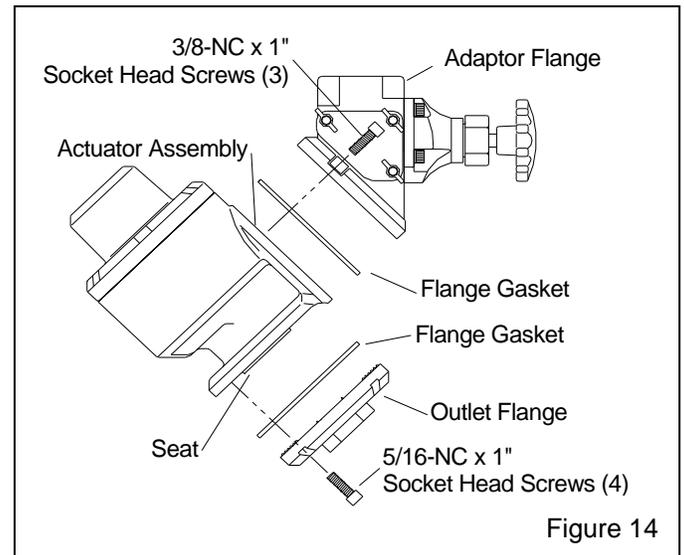

Figure 14
6.7.2 Actuator segment, Ref. Figures 14 and 15
6.7.2.4 Refer to Figure 14 and remove the screws securing the adaptor flange and outlet flange to the actuator assembly, and then remove the actuator assembly.